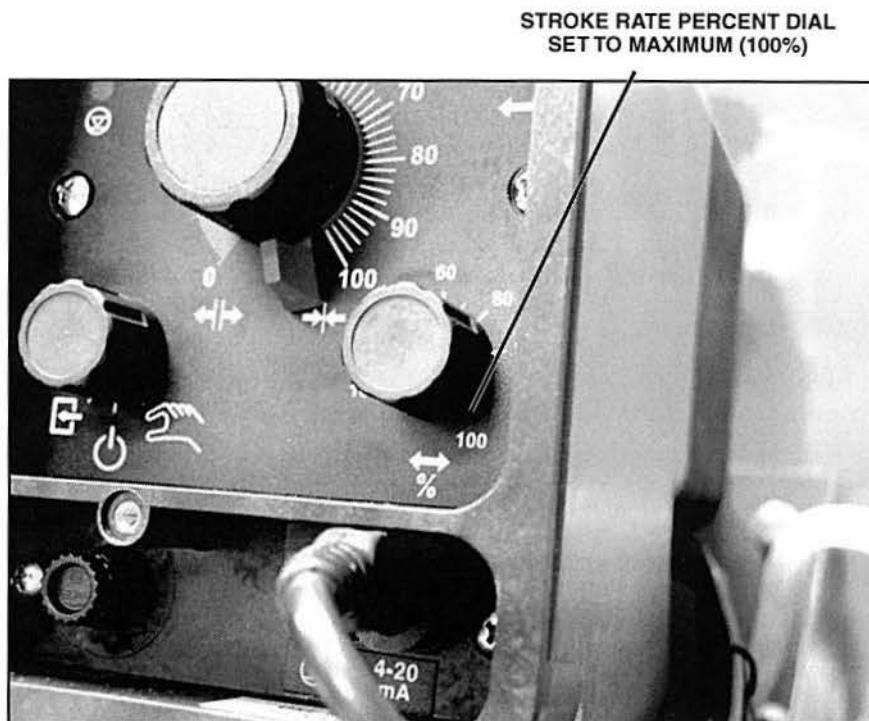

Figure 57. The Stroke Rate Percent Dial Set to Maximum
- A. Set the stroke rate percent dial to maximum setting (100%), as shown in figure 57.